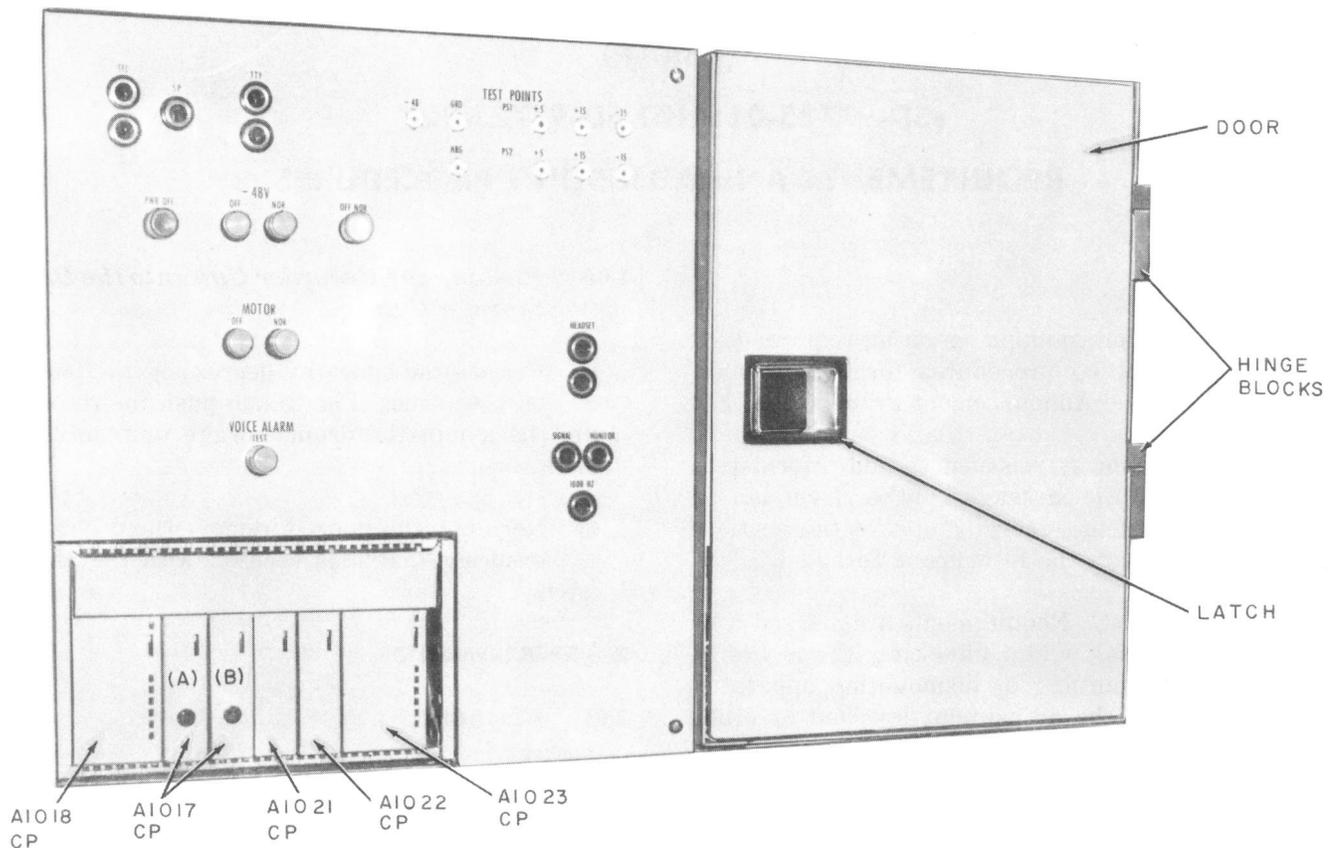
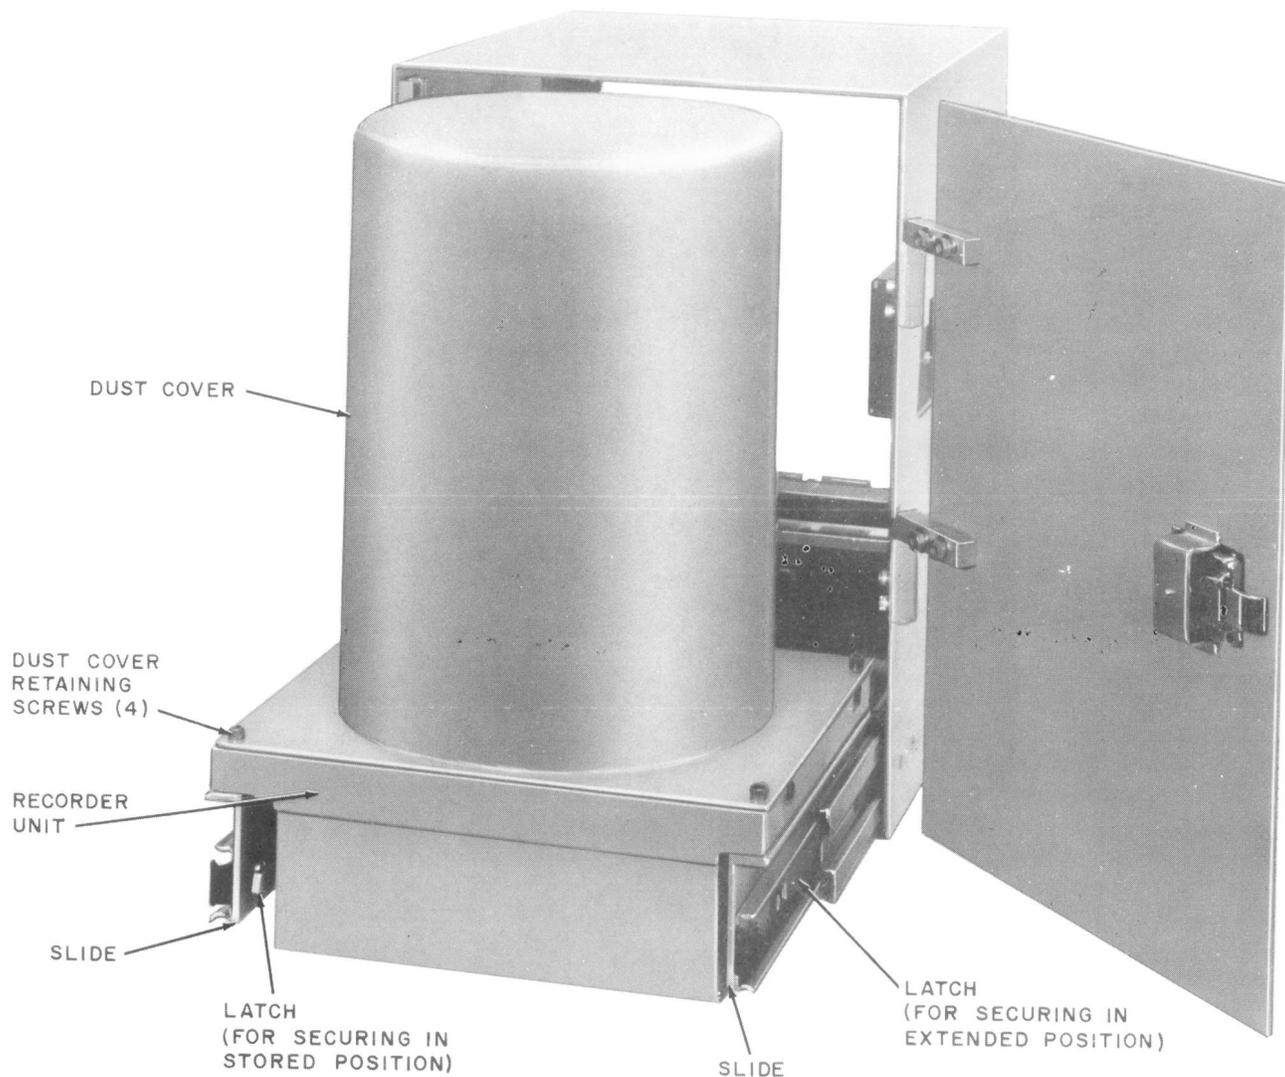
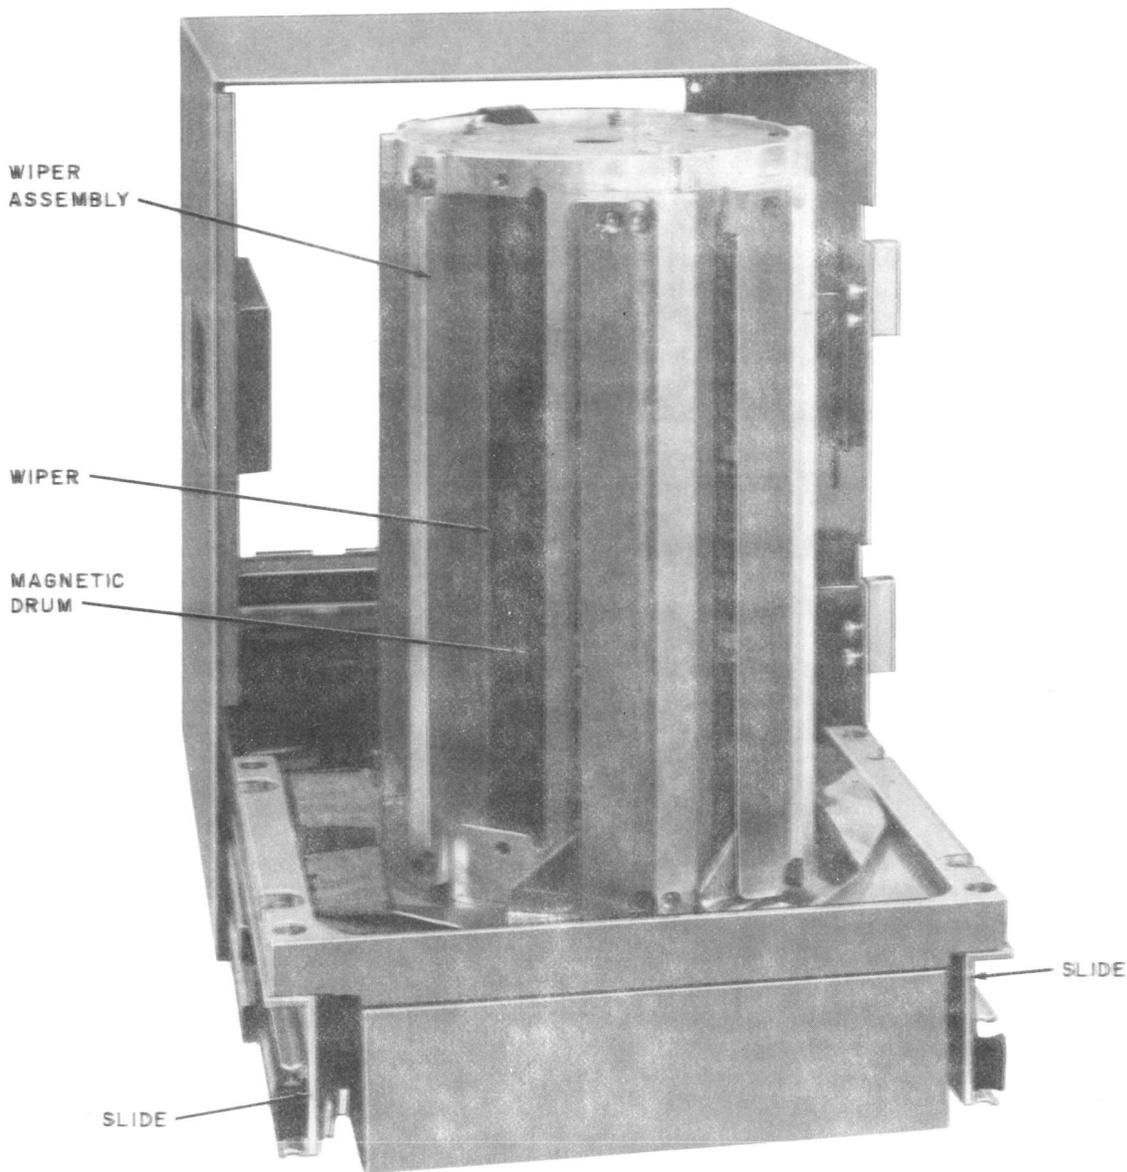

Fig. 1—Storage Module (Typical)
Fig. 2—Drum Storage Unit With Recorder Unit Out on Its Slides
Fig. 3—Recorder Unit With Dust Cover Removed
- (1) Unlatch the door (Fig. 1) with the paddle latch and open the door.
- (2) If desired, the door can be removed by lifting it from the hinge blocks. Place the door in a suitable storage place.
- (3) Release the latch assembly securing unit in stored position (Fig. 2) by lifting it upward and pull the recorder unit out of the drum storage unit until it stops and locks.
- (1) Release the slides by depressing the latches on both slides (Fig. 2) and push the recorder unit back into the drum storage unit until the latch secures it.
- (2) Remount the door if removed and close it, ensuring that it is secured with the paddle latch.
- (1) Pull the recorder unit out on its slides (1.05).
- (2) Using the appropriate Allen wrench, remove the four dust cover retaining screws (Fig. 2).
- (3) Remove the dust cover by lifting it straight up and off the recorder unit. The parts are now accessible for inspection (Fig. 3).
- (a) **Magnetic Drum:** The wiper (Fig. 3) shall apply a uniform, light coat of lubricant (silicone fluid SF-1147, 200 centistokes viscosity) to the magnetic drum. This is done during the normal operation of the drum storage unit. Check as follows.
- (2) Using the appropriate Allen wrench, remove the four dust cover retaining screws (Fig. 2) and remove the dust cover.
- (3) Observe that the entire surface of the drum is thoroughly lubricated, as evidenced by a shiny, wet appearance.
The hinged front door (Fig. 1) shall open and close freely without any binding. The securing latch shall operate smoothly and shall hold the hinged front door tightly closed when latched.
The slides (Fig. 2 and 3) shall operate smoothly and evenly with minimal effort. The latches associated with the slides shall securely lock in both the open and closed positions.
- (1) Shut down the frame in accordance with Section 201-520-301.
- (2) Remove circuit pack A1022 (Fig. 1) from the storage module, place it in an extender card, and mount the extender card in the storage module.
- (3) Set the electronic counter to detect 3150 Hz (List 1 or List 2 Drum Storage Unit) or 4200 Hz (List 3 Drum Storage Unit) and
- (1) Requirements 2.08 and 2.09 must be met.
- (2) Shut down the frame in accordance with Section 201-520-301.
- (3) Remove the A1021 circuit pack (Fig. 1) and place it on an extender card.
- (4) Connect the counter input to pin 16 and ground to pin 15 of A1021 circuit pack.
- (5) Start up the frame in accordance with Section 201-520-301.
- (6) Set the counter to measure the frequency and note the frequency indication.
- (7) Disconnect the counter. Connect the oscilloscope input to pin 16 and ground to pin 15 of the A1021 circuit pack. Note the ac voltage indication.
- (2) Using the appropriate Allen wrench, remove the dust cover retaining screws (Fig. 2) and remove the dust cover.
- (3) Set the oscilloscope to measure pulse 3-5 volts amplitude and approximately 100 ms duration. Connect it to the appropriate pins of the optical switch assembly.
- (4) Observe the indication on the oscilloscope.